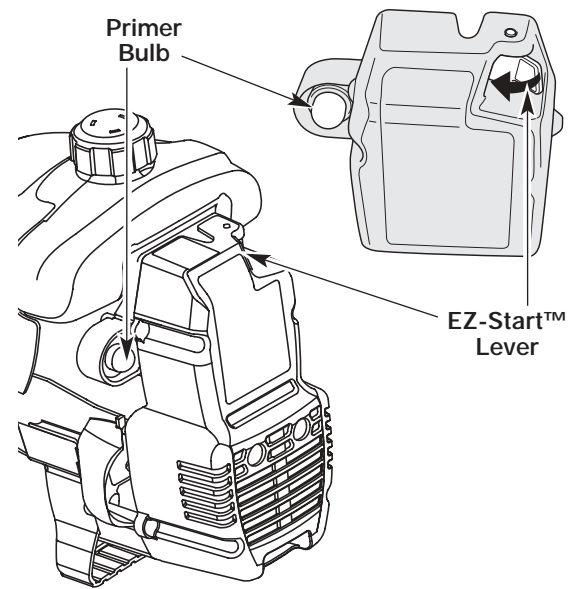

Fig. 17
3. Fully press and release the primer bulb 10 times, slowly. Some amount of **fuel should be visible in the primer bulb** and fuel lines (Fig. 17). If you can't see fuel in the bulb, press and release the bulb as many times as it takes before you can see fuel in it.
4. **Push the EZ-Start™ Lever towards the primer bulb** until it clicks and locks into place (Fig. 17).